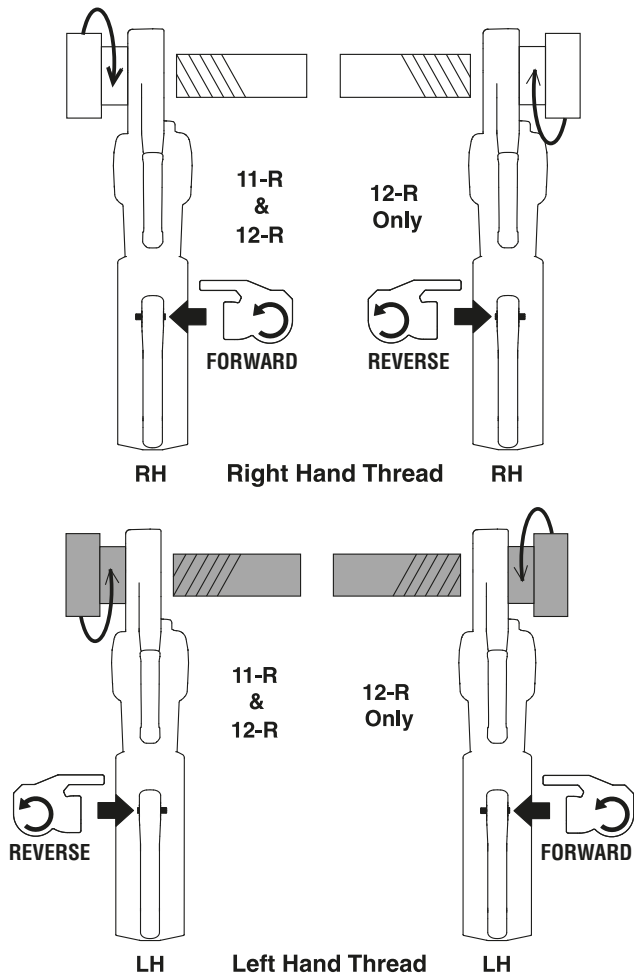

Figure 9 – Forward/Reverse Slide Switch/Die Head Orientation
7. Position the power drive Forward/Reverse Slide Switch for the desired right or left hand thread. See Figure 9.